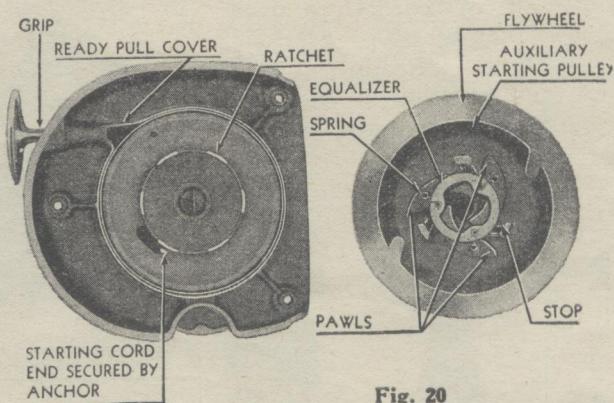

Fig. 20
This simple device is built into model TD(L) for the express purpose of eliminating the necessity of manually wrapping the cord around the starting pulley for cranking. Fig. 8. It consists of a ratchet plate about which are coiled a return spring and the starting cord and a pawl arrangement mounted on top of the magneto flywheel. Fig. 20.